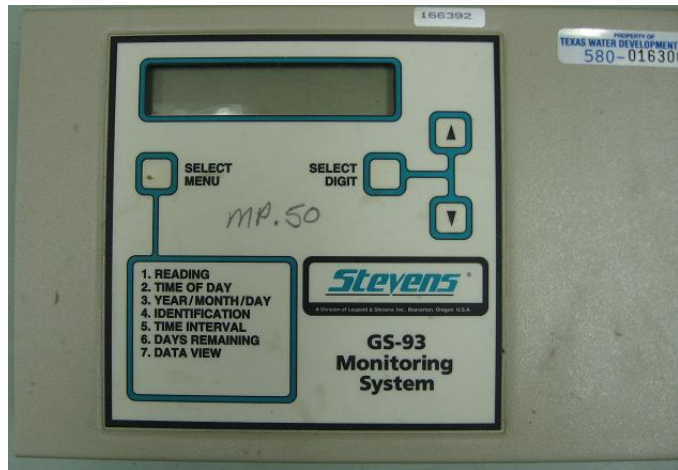

Figure 5. Stevens GS-93 Logger
The Stevens GS-93 logger is a single-input, solid-state data logger with a built-in display and keyboard, real time battery-backed clock, and calendar. Although data are now transmitted via satellite, the logger also has a removable memory card that can store up to 120,000 readings. The built-in display and controls (Figure 5) allow field programming and diagnostics without a laptop or other external device.
The keypad/display interface is a menu-driven system consisting of seven menu items (Figure 5). The four buttons are: SELECT MENU, SELECT DIGIT, ▲(UP) and ▼(DOWN). The SELECT MENU button allows the user to scroll through the seven selections. The current selection is noted as the left-most digit on the display. The next digit is always blank, and the other six display the value for the given menu selection. The seven menus are: